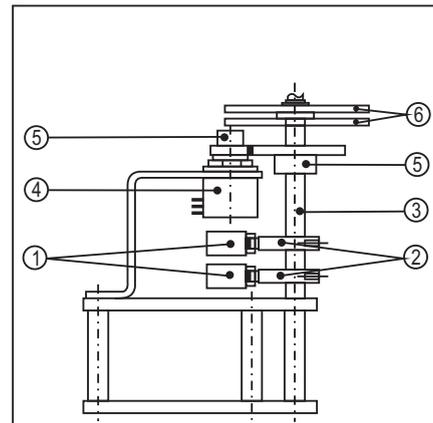

FIG. NO. 1
B) SETTING OF TRAVEL LIMIT SWITCHES : REFER FIG. No. 1